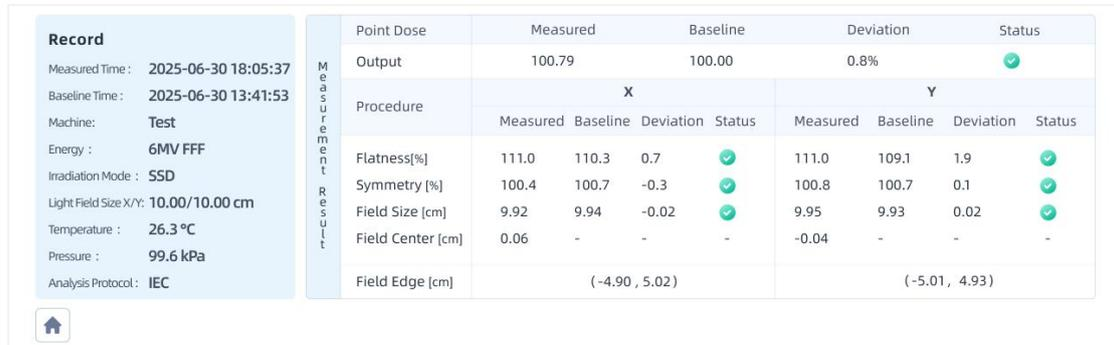

Figure 7. Measurement Results Detail Page
- On the home screen, click [③ Measurement Parameters] or [④ Measurement Results] to open the measurement results detail page, as shown in Figure 7.
- Clicking on [🏠] or any area within the Figure 7 > [Measurement Result] will return to the home screen.